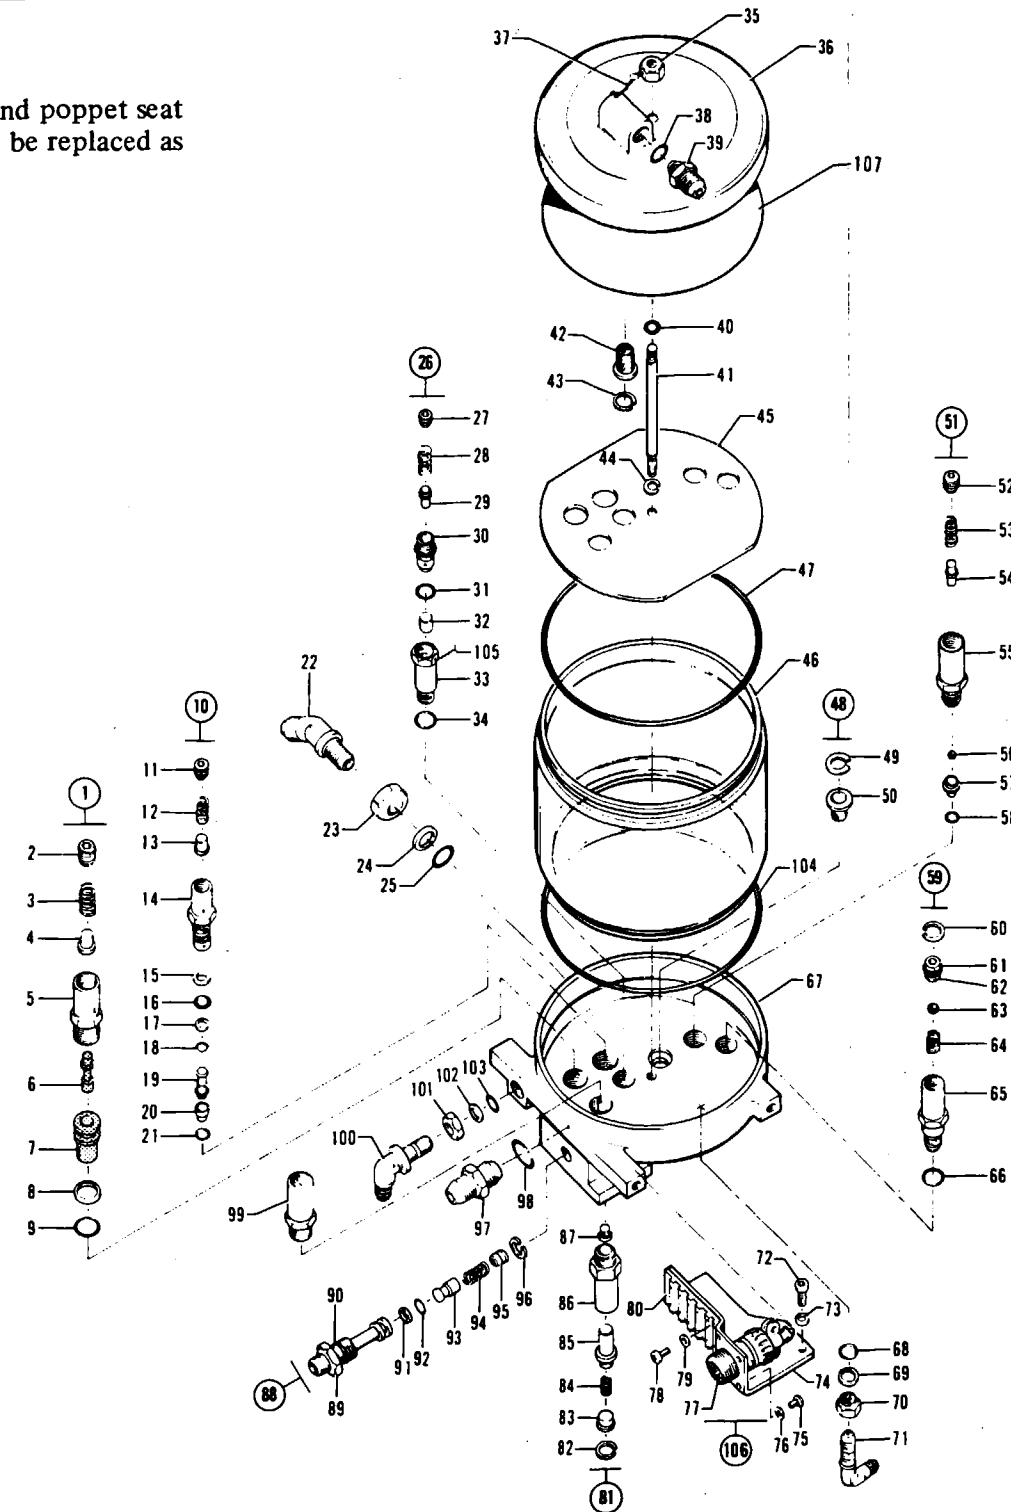

Figure 6-12. Hydraulic Power Pack (Wiebel Tool)
6-67. DISASSEMBLY OF POWER PACK. (Refer to Figure 6-12.) After the Power Pack has been removed from the airplane and all ports are capped or plugged, spray with cleaning solvent (Federal Specifications P-S-661, or equivalent) to remove all accumulated dust or dirt. Dry with filtered compressed air. To disassemble the unit, proceed as follows:
- f. Remove the landing gear handle — release retainer (26), spring (25) and plunger (23) from the manifold. The end of the plunger has a ball which should remain in the plunger. If it does not, remove the ball from the manifold.
6-69. DISASSEMBLY OF HAND PUMP SUCTION SCREEN. (Refer to Figure 6-12, item 48.)
- a. Remove the suction screen (50) by removing the snap ring (49).
6-70. DISASSEMBLY OF HAND PUMP RELIEF VALVE. (Refer to Figure 6-12, item 51.)
- a. Remove the adjusting screw (52) at the top of the hand pump relief valve.
- b. Remove the hand pump relief valve body (55) by unscrewing from the body (67).
- c. Remove the spring (53) and the stem (54) from body (55).
- d. Remove ball (56).
- e. Use a brass hook and remove the seat (57) from the body (67). Be careful not to score the bore.
- f. Remove the "O" ring (58) from the bottom of the cavity.
- 6-71. DISASSEMBLY OF MAIN RELIEF VALVE. (Refer to Figure 6-12, item 1.)
- Remove the adjusting screw (2) at the top of the main relief valve.
- Remove relief valve body (5) with spring (3) and button (4).
- Remove the poppet (6) from the poppet seat (7).
- Use a brass hook, not over .125 inches long, and pull the poppet seat (7) up and out of the body (67). Hook through the holes in the side of the seat and use care not to damage the bore in the body (67).
- Reassemble poppet (6) into poppet seat (7). The poppet and poppet seat are matched parts.
- 6-72. DISASSEMBLY OF PRIORITY VALVE. (Refer to Figure 6-12, item 10.)
- Remove the adjusting screw (11) at the top of the priority valve.
- Remove priority valve body (14) with spring (12), button (13) and poppet (19).
- Use a brass hook and remove the poppet seat (20) from the body (67). Be careful not to score the bore.
- Remove the "O" ring (21) from the bottom of the cavity.
- 6-73. DISASSEMBLY OF HAND PUMP CHECK VALVE. (Refer to Figure 6-12, item 88.)
- Remove the fitting (89) from the body (67).
- Remove the snap ring (96) from fitting (89).
- Remove guide (95), spring (94) and poppet (93).
- 6-74. DISASSEMBLY OF STANDPIPE-FILTER. (Refer to Figure 6-12.)
- Remove the standpipe-filter (99) from body (67).
- 6-75. DISASSEMBLY OF VENT FILTER. (Refer to Figure 6-12.)
- Remove snap ring (43) and pull out filter (42).